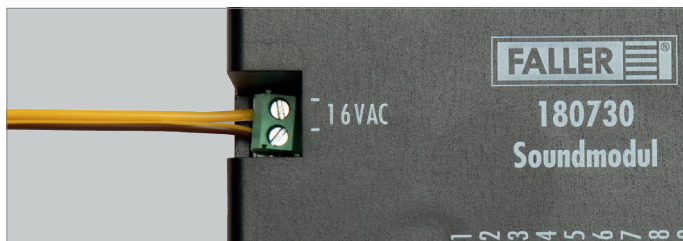

Fig. 2: Connecting the Sound module
- Connect the Sound module to 16 V alternating voltage, see Fig. 2. The Sound module is thus connected to its supply voltage.